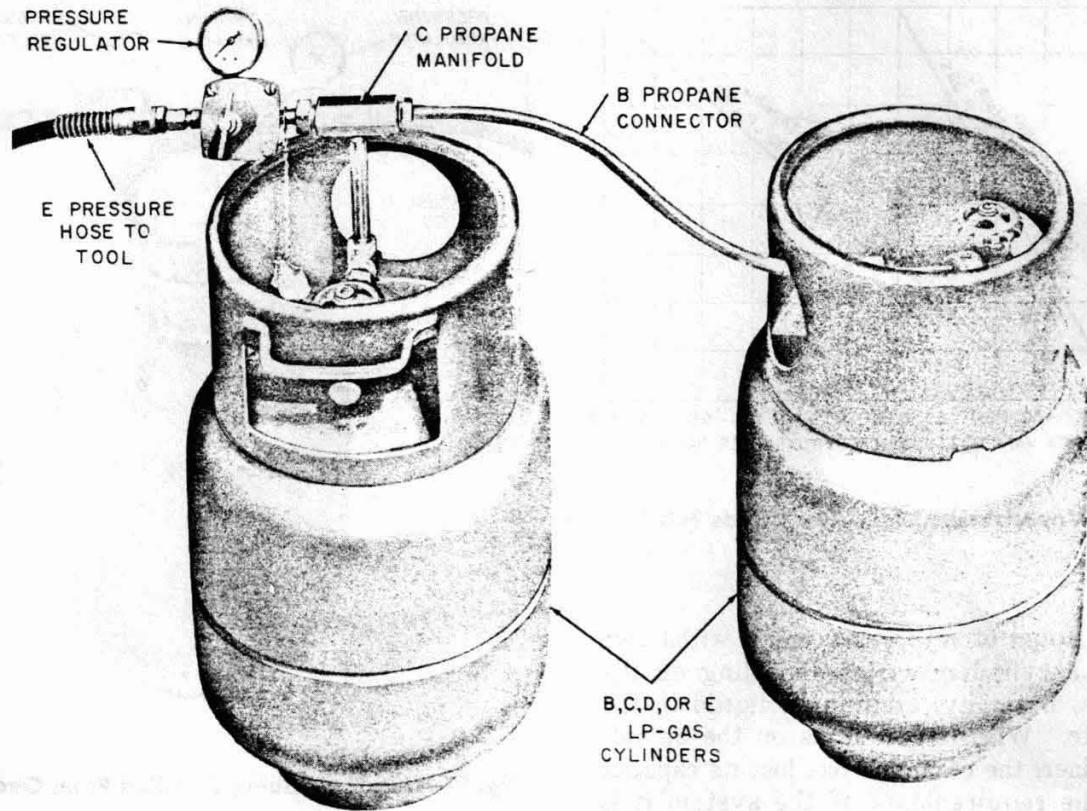

Fig. 10—One Tool Being Supplied From Two Cylinders
6.08 If only one tool is being supplied with fuel from one cylinder, and the cylinder loses its capacity for supplying fuel to the tool, as outlined in 6.06, use two or more cylinders as shown in Fig. 10.